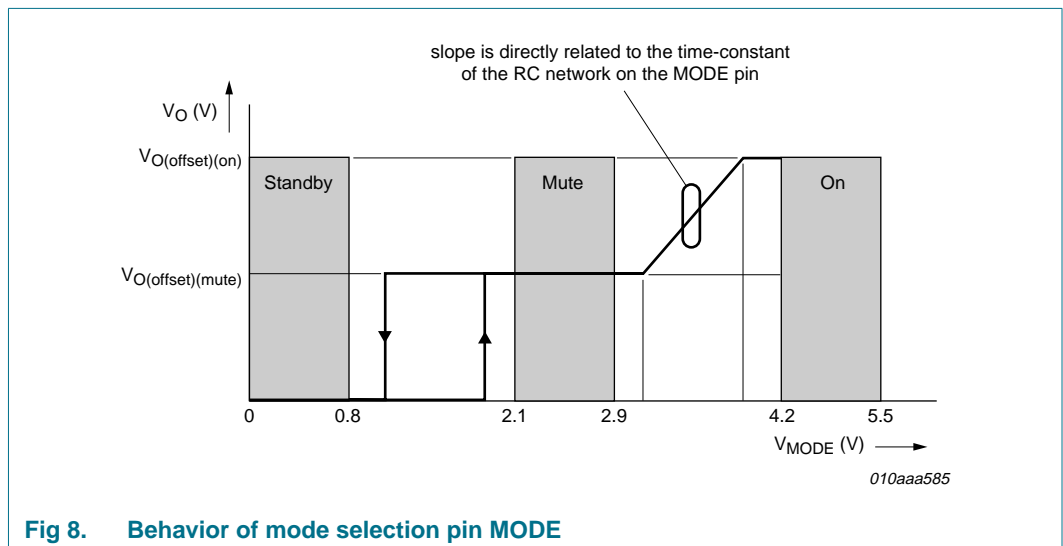

Fig 8. Behavior of mode selection pin MODE
- [5] The transition between Standby and Mute modes has hysteresis, while the slope of the transition between Mute and Operating modes is determined by the time-constant of the RC network on pin MODE; see Figure 8.
To ensure a pop noise-free start-up, an RC time-constant must be applied to pin MODE. The bias-current setting of the VI converter input is directly related to the voltage on pin MODE. In turn the bias-current setting of the VI converters is directly related to the DC output offset voltage. A slow dV/dt on pin MODE results in a slow dV/dt for the DC output offset voltage, ensuring a pop noise-free transition between Mute and Operating modes. A time-constant of 500 ms is sufficient to guarantee pop noise-free start-up; see Figure 4, Figure 5 and Figure 8 for more information.